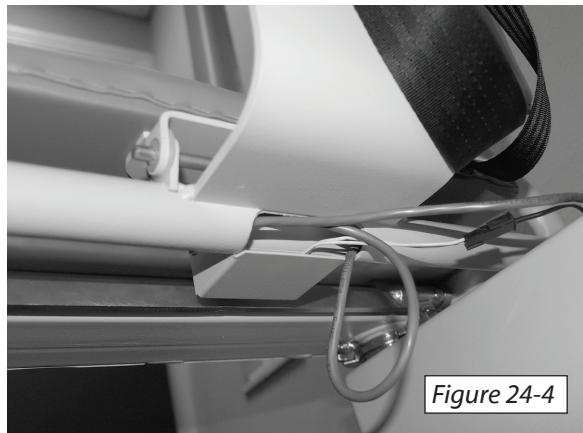

Figure 24-4
7. Tuck any excess wire back into the armrest bar. [Figure 24-4]